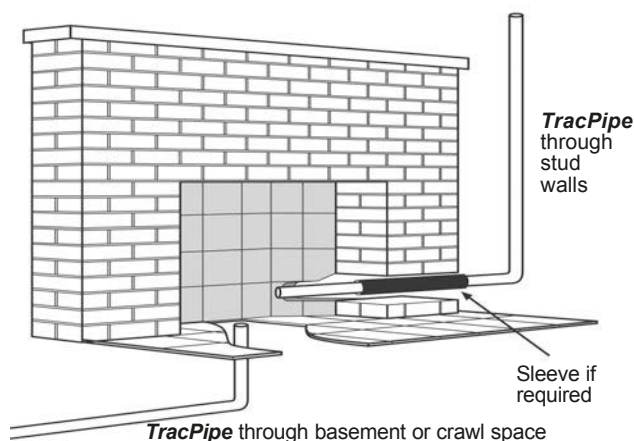

Figure: 4-22
1. **TracPipe®** may be used to deliver gas directly to the valve for a gas fireplace. This is approved for decorative and heat generating fireplaces and for gas logs used in masonry and pre-fabricated fireplaces. DO NOT use **TracPipe®** to connect gas log lighters or gas wands for use in all-fuel (woodburning) fireplaces. See Figure: 4-22).